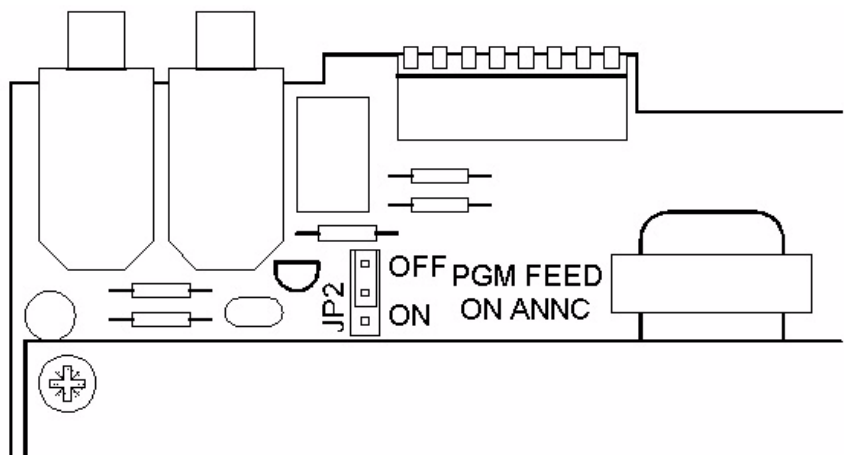

Figure 2-2: MS-232 Jumper
- In the MS-232 station the jumper is located at the left rear of the main circuit board as shown in Figure 2-2. JP2 should be set to ON to enable the option or OFF to disable it.